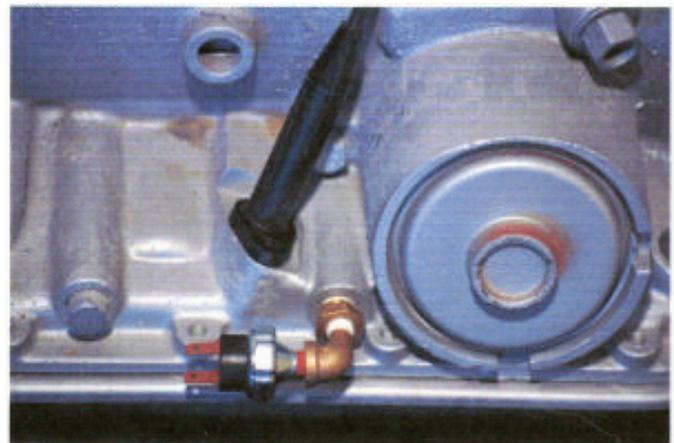

Fig. 2 - Oil pressure switch in the 4th gear port.
- DO NOT OVERTIGHTEN!** (Fig. 2)